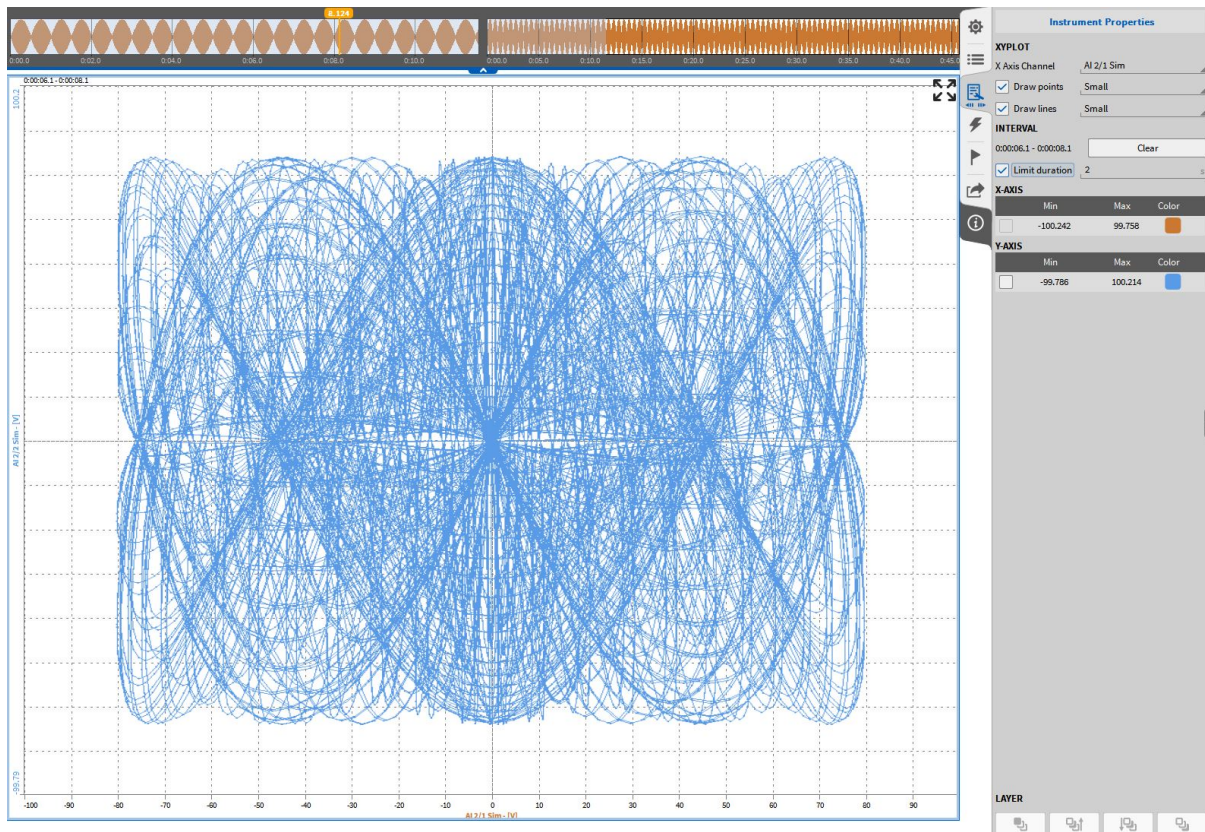

Fig. 8.85: XY-Plot - Data scrolling
- In the *PLAY* mode and *LIVE* mode (with frozen screen) the user can scroll through the measurement data by moving the orange time marker in the Overview bar (see Fig. 8.85) or in a Recorder if one is displayed. The Interval settings in the Instrument Properties are respected during this operation.